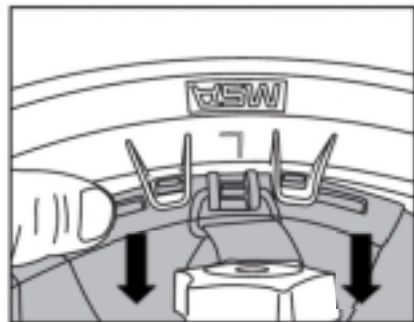

Fig. 2
- (2) Sliding it out of the shell (see Fig. 2).